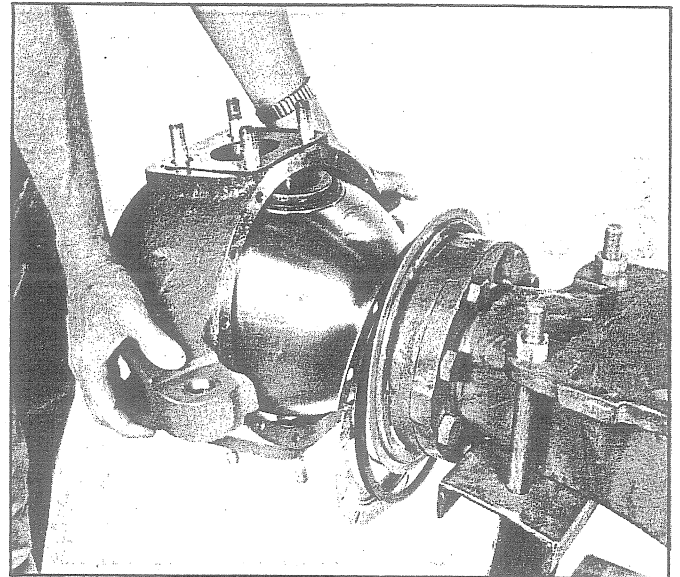

Fig. 14 - Removing Spindle Support
17. Carefully remove spindle support as shown in Fig. 14.